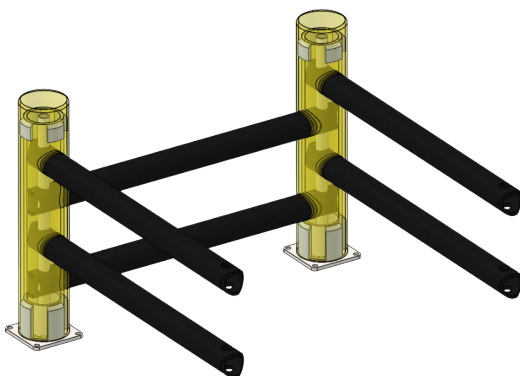

Figure 3. Jamming the crossbars inside the post with 32 mm diameter pipes.
3. Jam the crossbars of the sections with 32 mm diameter gray pipes through the holes of the crossbars inside the posts (Fig. 3). For convenience, you can use auxiliary materials (rod, reinforcement, etc.).